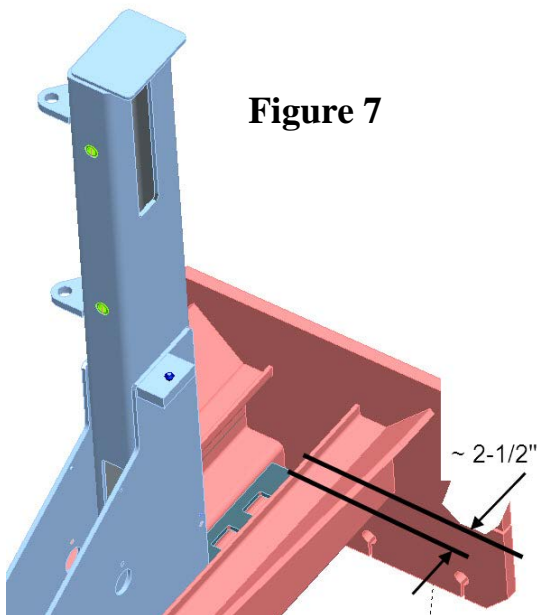

Figure 7
- Slide front cross-member (with safety ladder mounted) into front tower, until safety ladder has approximately 2-1/2" clearance to tower base plate (**Figure.7**).